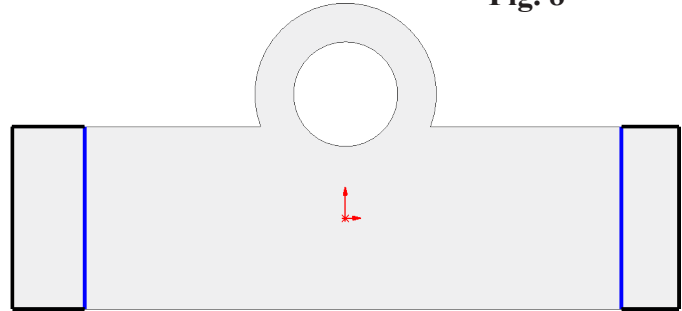

Fig. 9
Step 4. Sketch corner rectangle at **both ends of Extrude**, **Fig. 9**.